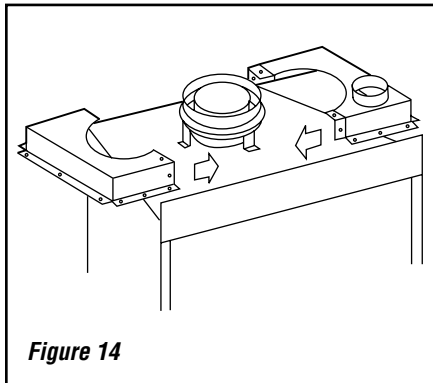

Figure 14
Step 5. Attach the cold climate kit, Model FTF8-CCK1-LD, around the chimney collar with the screws provided (see **Figure 14**).